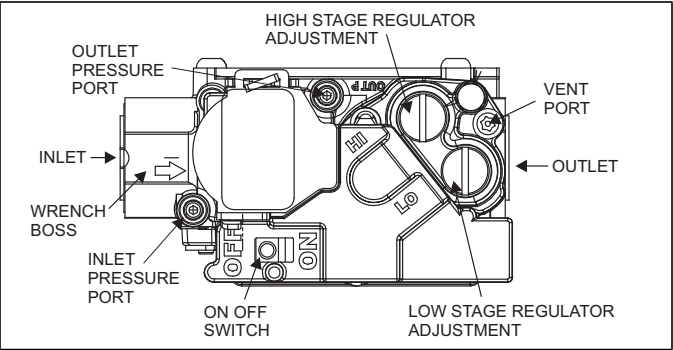

FIGURE 19: Gas Valve
Inlet and manifold gas pressure may be measured by connecting the "U" tube manometer to the gas valve with a piece of tubing. Follow the appropriate section in the instructions below. Refer to Figure 19 for a drawing of the locations of the pressure ports on the gas valve.
- 1. Refer to Figure 19 for location of pressure regulator adjustment cap and adjustment screws on main gas valve.